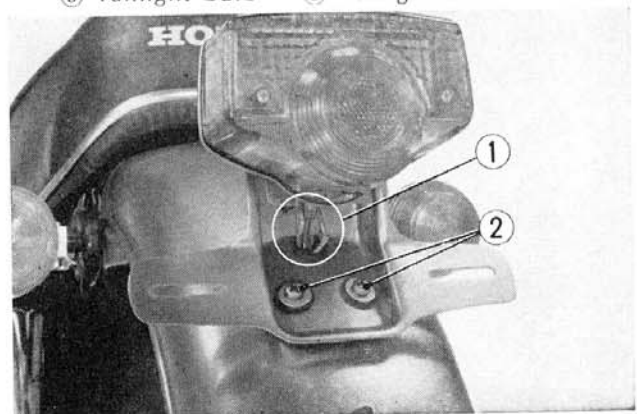

Fig. 16-7 ① Lead connectors
1. Disconnect the tail/stoplight leads at the connectors and then remove the tail/stoplight bracket. (Fig. 16-7)